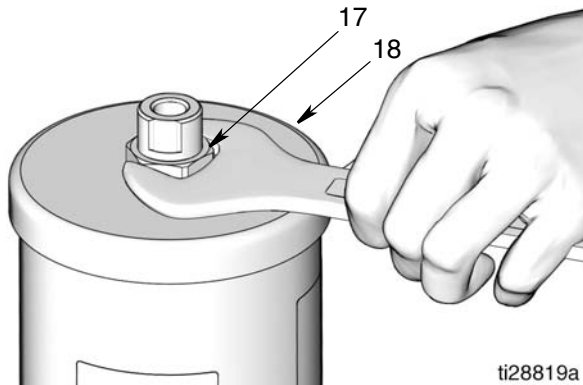

FIG. 40
22. Install cover (18) on reservoir (11). Use your hand to apply pressure to the top of the cover and compress the spring. At the same time, tighten and then torque nut (17) to 45 - 55 in. lbs. (5.1 to 6.2 N.m) (FIG. 40).